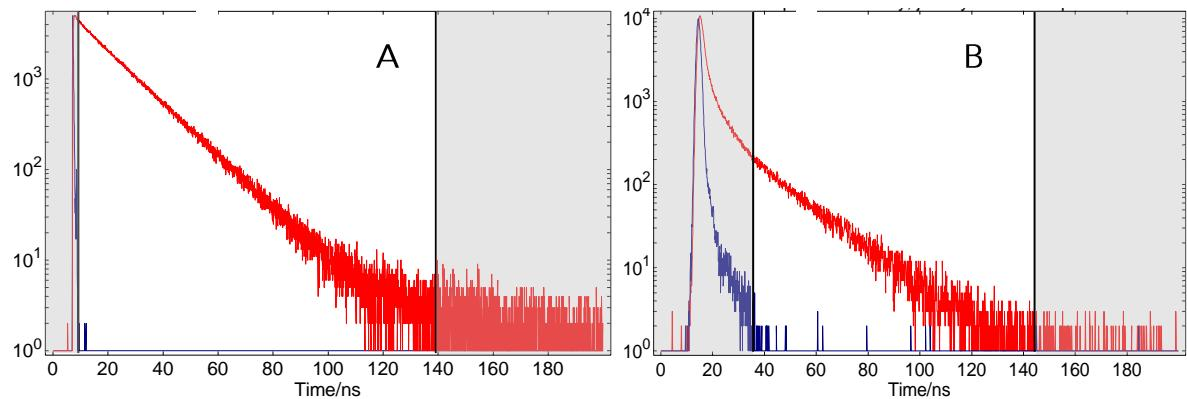
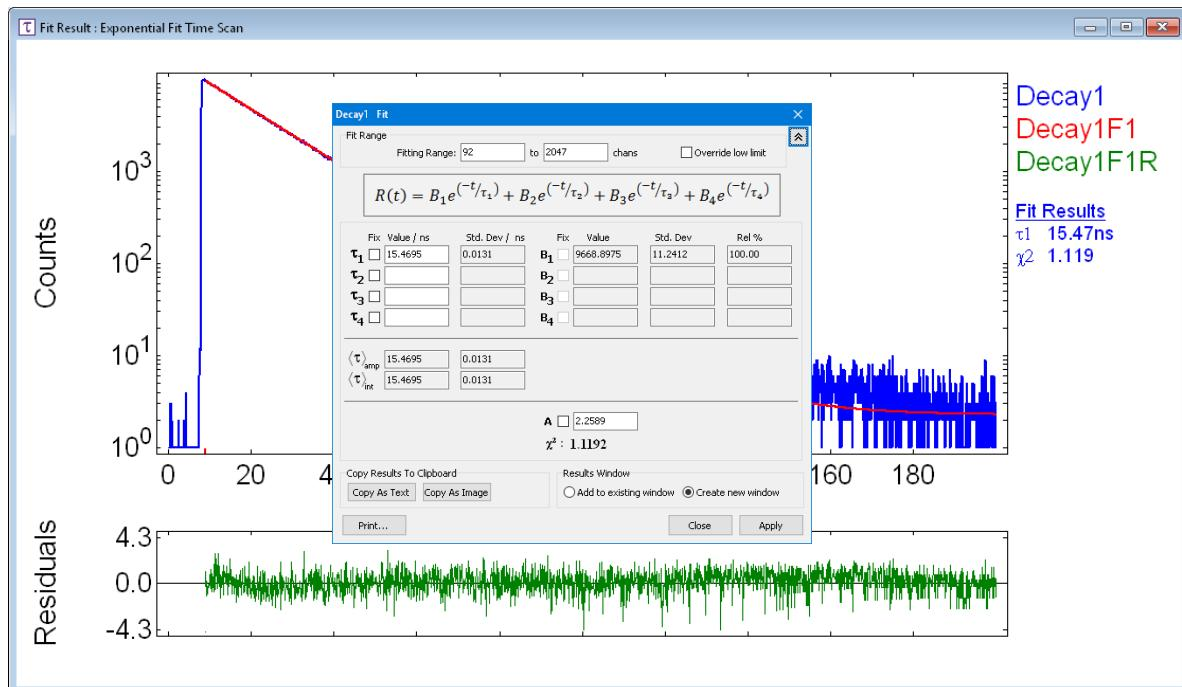
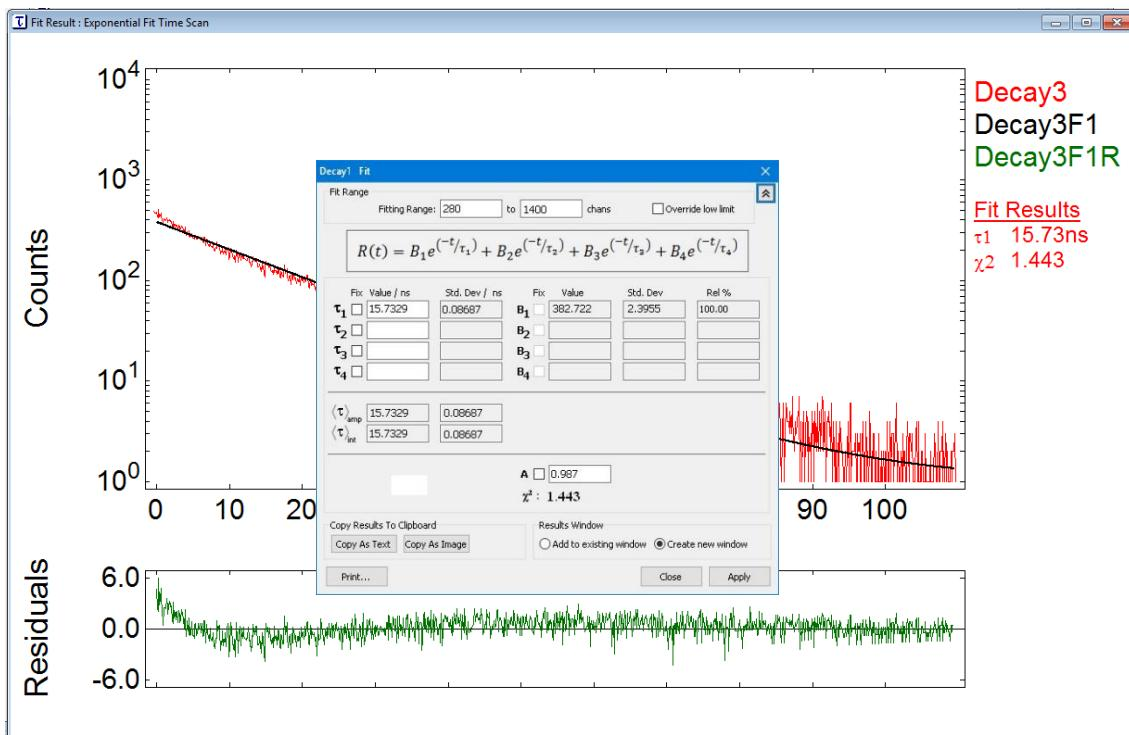

Figure 9-1: Tail fit regions, two different examples
Figure 9-3: satisfactory Tail Fit
Figure 9-4: unsatisfactory Tail Fit
Figure 9-1 below shows – on the example of two different measurements "A" and "B" – the selection of a suitable tail fit region (region with white background). The tail fit region excludes the time period for which the IRF is still present. For obtaining proper fit results, the far end of the tail should be excluded, it only contains detector background and noise and no valuable information on the decay kinetics
- 19-2 Inspect your sample decay measurement and decide whether a good model to fit to would be a single exponential decay, or a function that contains more than a single exponential term. Decay processes that are likely to be of single exponential nature are recognised by a sloping straight line in a semi-logarithmic plot (see tail fit region of decay "A" in Figure 9-1). Decays that deviate from a straight line (see tail fit region of decay "B" Figure 9-1) will not be satisfactorily fitted with a single exponential term.
Figure 9-3 shows a satisfactory single exponential fit result of decay "A" of Figure 9-1. In contrast, Figure 9-4 (showing a tail fit result of decay "B" of Figure 9-1) is an example for an unsatisfactory fit result.
- 20-2 Inspect your sample decay measurement and decide whether a good model to fit would be a single exponential decay, or a function that contains more than a single exponential term. Decay processes that are likely to be of single exponential nature are recognised by a sloping straight line in a semi-logarithmic plot (see decay “A” in Figure 9-1). Decays that deviate from a straight line (see decay “B” Figure 9-1) will not be satisfactorily fitted with a single exponential term.